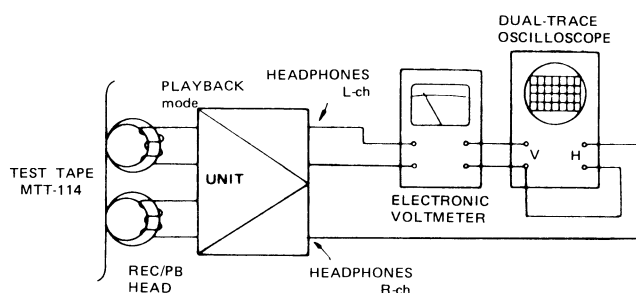

Figure 5-2
- 1) Make a connection of instruments as shown in Figure 5-2.